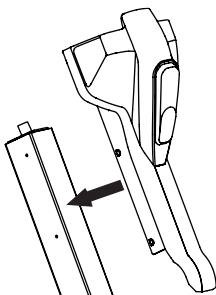
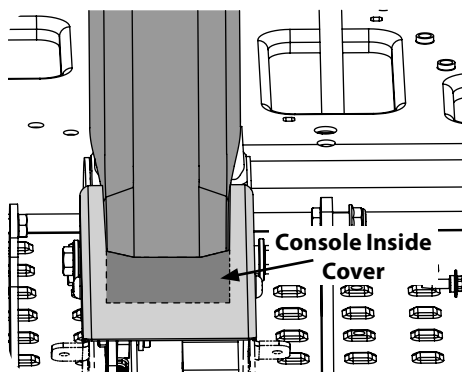

Figure 4
Figure 5
3. Slide the console onto the steering column with the wiring harness tucked in behind the console. Make sure the lower portion of the console is inside the lower column cover. See Figure 4 and Figure 5.